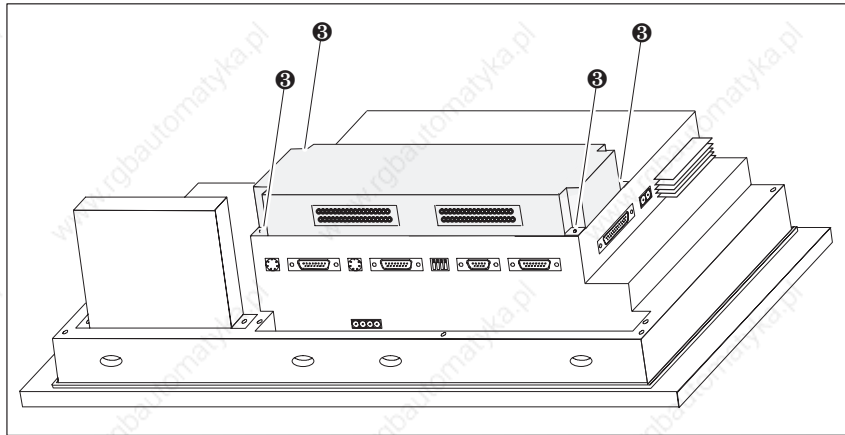

Figure 18-10 Securing the control panel interface to the OP (example OP37)
- Use the four screws supplied **3** to secure the control panel interface to the OP (see Figure 18-10).